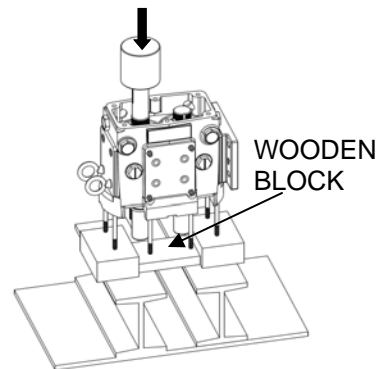

Figure 33: Pressing Shafts From Gear Case
4) Set the gear case in a press with the fluid end side facing down (Figure 33). Use a wooden block to protect the shafts from hitting the ground when pushed out. Once the protective block is in place, push the shafts out of the gear case. Reference Table 4 for the required force (in tons) needed to press the shafts out of the gear case.